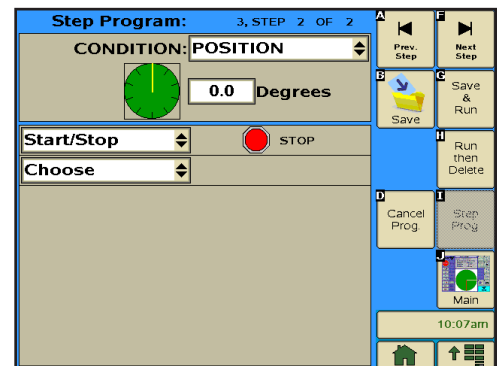

Figure 167-2
29. Program the position condition for this step. Refer to Figure 167-2.